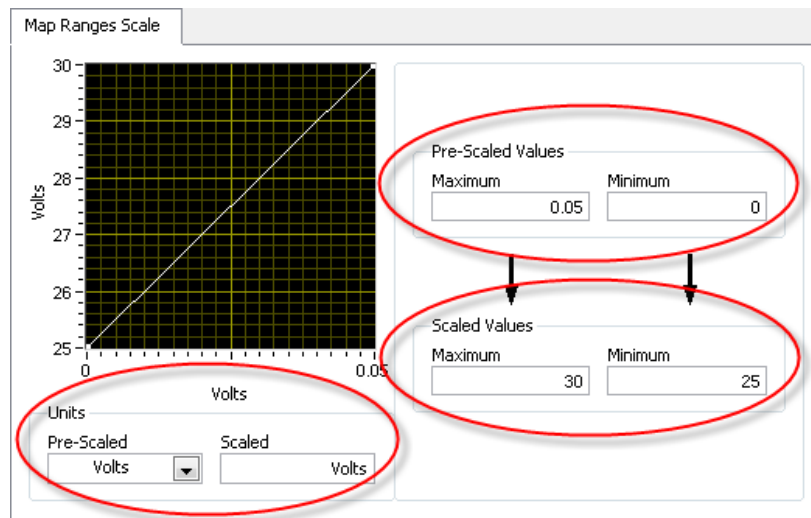

Figure 11. The NI-DAQmx Map Ranges scale maps one range of values to another range of values.
- e. Configure the Map Ranges Scale dialog as shown in Figure 11.